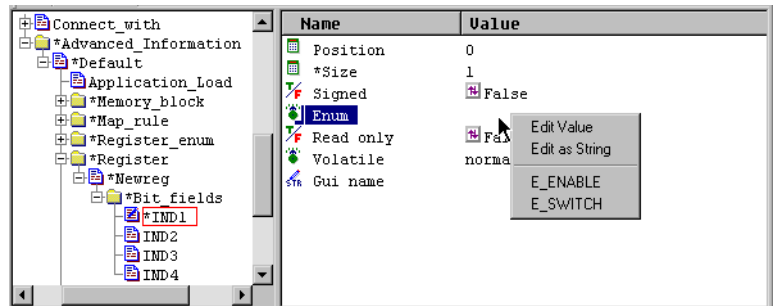

Figure 13-25 Creating bit field descriptions
12. Click IND1, in the left pane and set these values, shown in Figure 13-25: